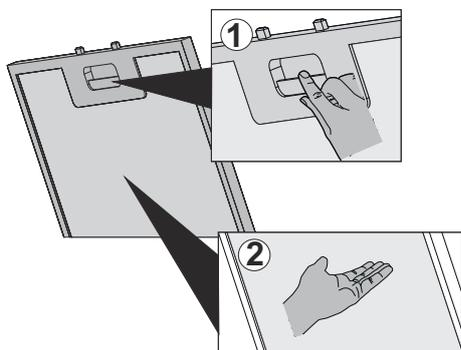

Fig. 7
- Press the aluminium filter tab (1) and pull the aluminium filter to the direction of the arrow (Fig. 7/1).
- As you remove the aluminium filter, hold it with your other hand to prevent it from dropping.(Fig. 7/2).